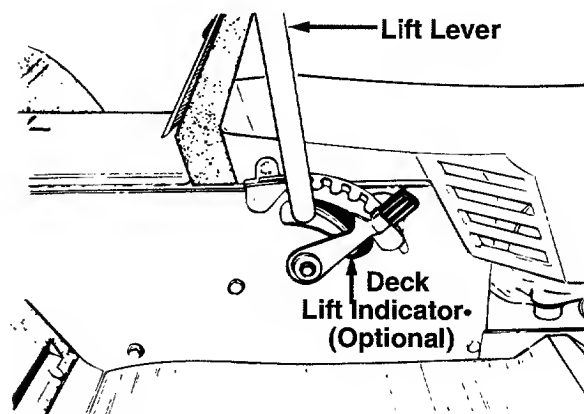

Figure 15
**NOTE:** The lift lever **must** be in the **BLADES STOP** position when starting the engine, when shifting into reverse and if the operator leaves the seat. See Figure 15.
The deck lift indicator (if so equipped) marks the position being used for the lift lever. Select the lift lever position desired, press the indicator lever outward, move it to the position immediately below the lift lever and release the indicator lever. See Figure 15.